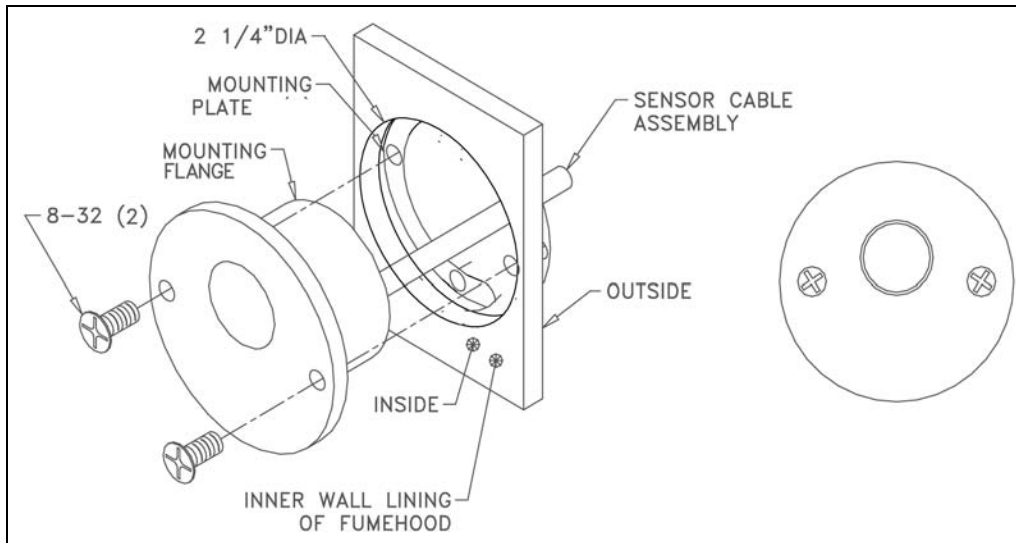

Figure 3: Finished Assembly
- Step 4: Mount the MOUNTING FLANGE to the MOUNTING PLATE using 2 #8-32 X 5/8 inch screws (Figure 3).